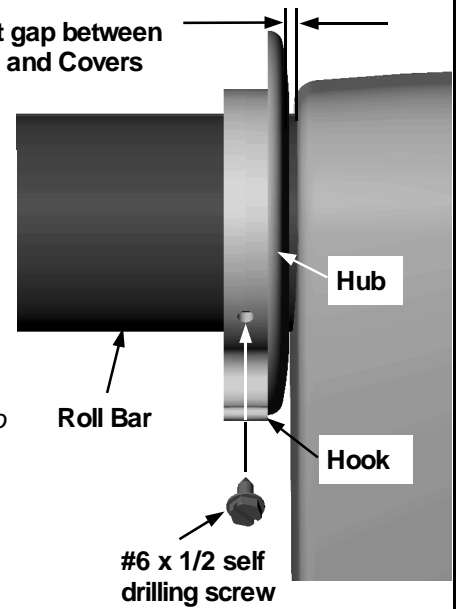

figure 8
**B. Once position established insert a #6 x 1/2 self drilling screw (as shown in figure 8) to secure Hub and Hook in place.**